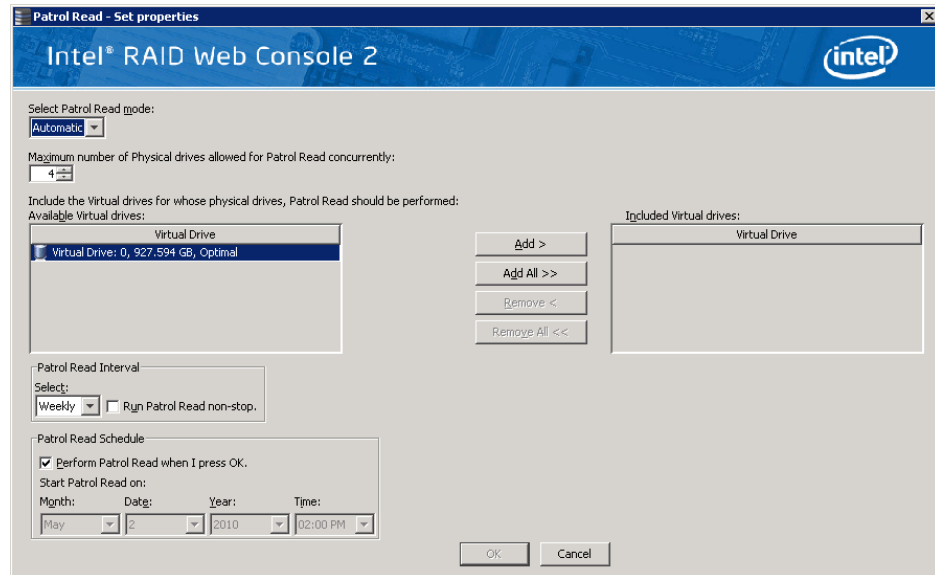

Figure 85. Patrol Read Configuration
2. Select the **Go To -> Controller** tab and click **Set Patrol Read Properties** to display a pop-up window, as shown in Figure 85.
- **Manual:** Patrol Read runs only when you manually start it by selecting **Start Patrol Read** from the controller options screen (see Figure 85).